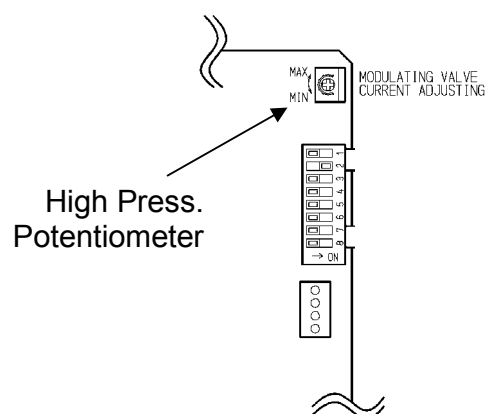

Fig. 6
15. Adjust the high pressure potentiometer on the Printed Circuit Board above SW1 (Fig. 6) to the pressure shown below. The potentiometer is very sensitive, turn no more than a few degrees at a time; then let the pressure settle down before turning it more.